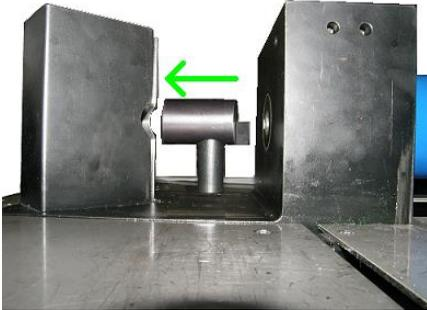

Rys. 55
- Set up front of the bumper at distance of one meter from plane of the calibration insert and press L2 button at the height of the window "DISTANCE „L” (Fig. 55)